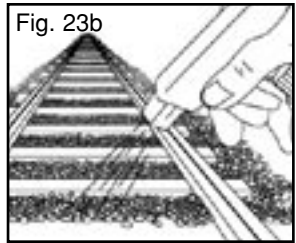

Fig. 23b
G. Apply Scenic Cement onto the Ballast with an eyedropper, or Scenic Sprayer (Fig. 23b), carefully avoiding contact with the track. Allow Scenic Cement to dry.